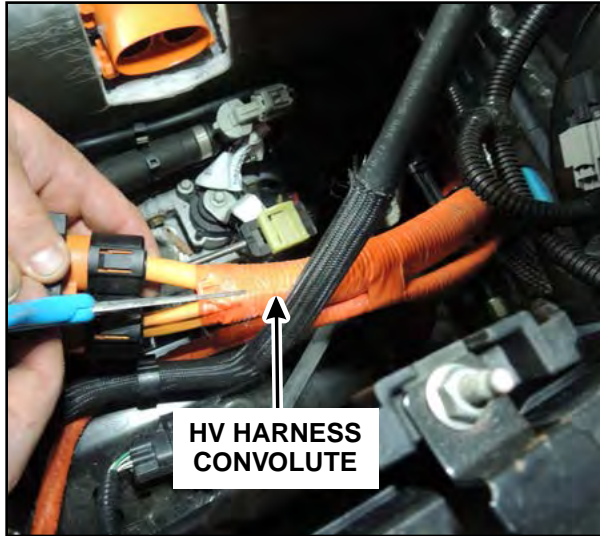

FIGURE 4a
- Using a pair of round/blunt nose scissors, cut the single convolute between the wires down to the black tape at the dash bracket and discard the cut convolute. Peel back the convolute as you cut for better visibility. See Figures 4a, 4b and 4c.